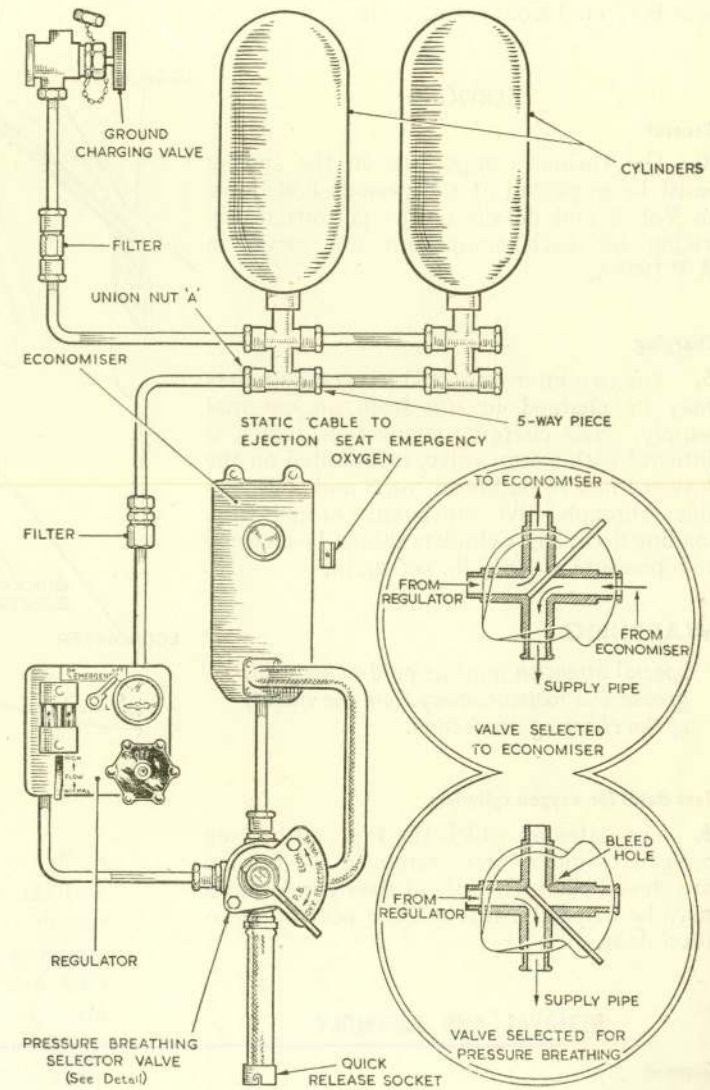
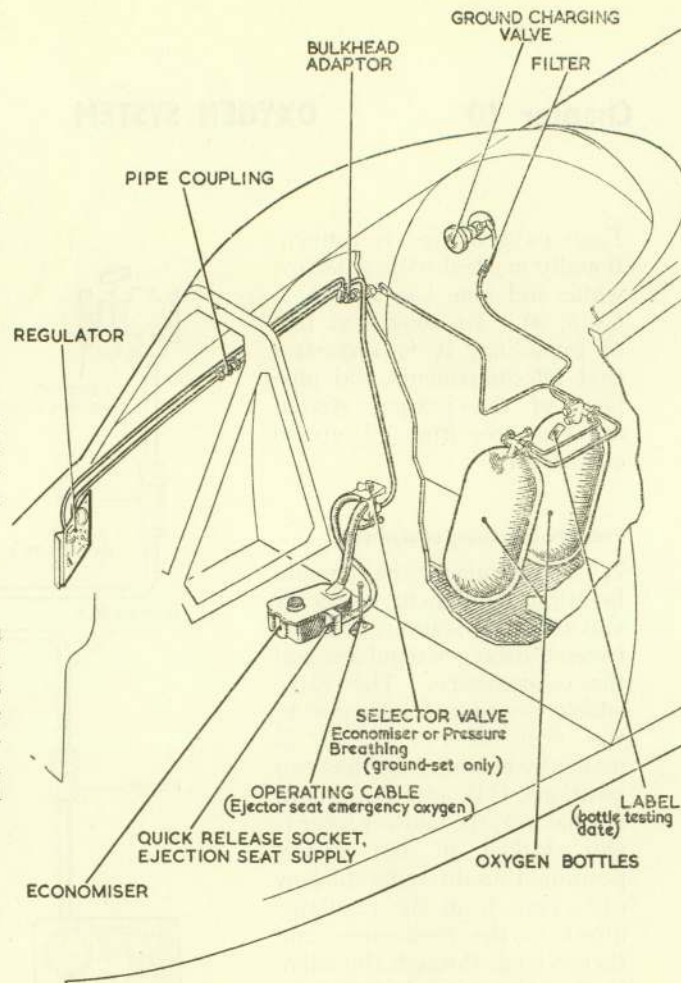

Fig. 1. Oxygen system
Fig. 2. Oxygen installation
1. The installation differs from the normal high-pressure system in that provision is made for pressure breathing equipment. Details of the functioning of the various components in the system are contained in A.P.1275A, which should be read in conjunction with the information given in this Chapter. Fig. 1 is a schematic diagram of the system indicating the relative positions of the components and fig. 2 shows the installation of the equipment and pipe runs in the aircraft.
2. To provide for the pressure breathing equipment, a selector valve (fig. 1) is interposed between the oxygen regulator and the economiser. The valve which is situated adjacent to the economiser (fig. 2), is manually operated and has two positions, P.B. and ECON. In normal use, the control lever is wire locked in the ECON position, thus directing the flow of oxygen from the regulator direct to the economiser and thence back through the valve to the pilot's supply tube (fig. 1). When pressure breathing equipment is to be used, the control lever must be set and wire locked in the P.B. position, thus by-passing the economiser and directing the supply from the regulator straight to the pilot's supply tube. The use of pressure breathing equipment entails the replacement of the Mk. 1 quick-release socket, in the pilot's supply tube, by a Mk. 3 quick-release socket. This change-over from
Ejection seat (fig. 2)
aft cylinder (fig. 1) and allowing the oxygen to escape *slowly* until the contents gauge on the regulator drops to zero.